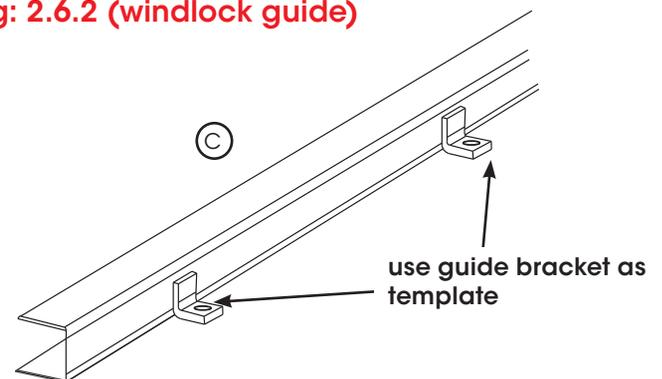

Fig: 2.6.3
- Using the guides brackets as a template (**Fig 2.6.3**) mark out and drill holes in the wall to match the spacing of the fixing bolt holes in the guides bracket.